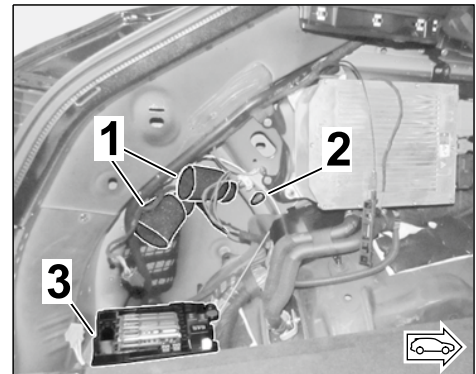

Figure 4
- 1.4 Expose connector B (6-pin)/connector C (10-pin) on trailer hitch preparation near the fuse box in the luggage compartment (⇒ *Figure 4*).